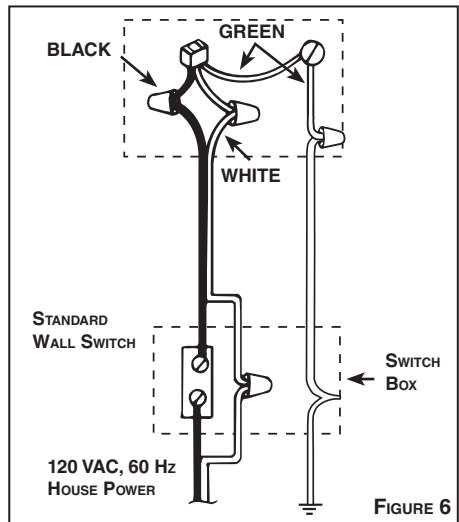

FIGURE 6
3. Refer to Figure 6. Connect supply wires to ventilator wires: BLACK to BLACK, WHITE to WHITE. Connect ground wire to GREEN ground lead.